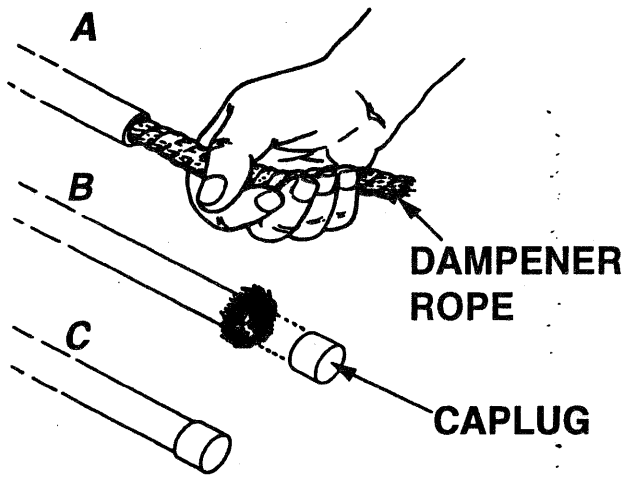

Figure 7
The two reflectors and the six driven elements require dampener rope in the last tubing section (the 7/16" tubing at the end of the element). This rope prevents low-frequency oscillations that may occur at low wind speeds. Select the dampener rope (Item 83) and cut it into sixteen (16) equal lengths of 45" (1.14m) each. Slip one length of rope into the outside end (the 7/16" tube) of an element half. With about 1/2" (13mm) of rope extending from the element half, fray the rope into individual fibers, and then fold the fibers back along the outside of the tube. See Figure 7. Slip a 7/16" caplug over the element end and rope fibers and push the caplug so that it is secure. Repeat this procedure for each of the sixteen element halves for the reflectors and driven elements.